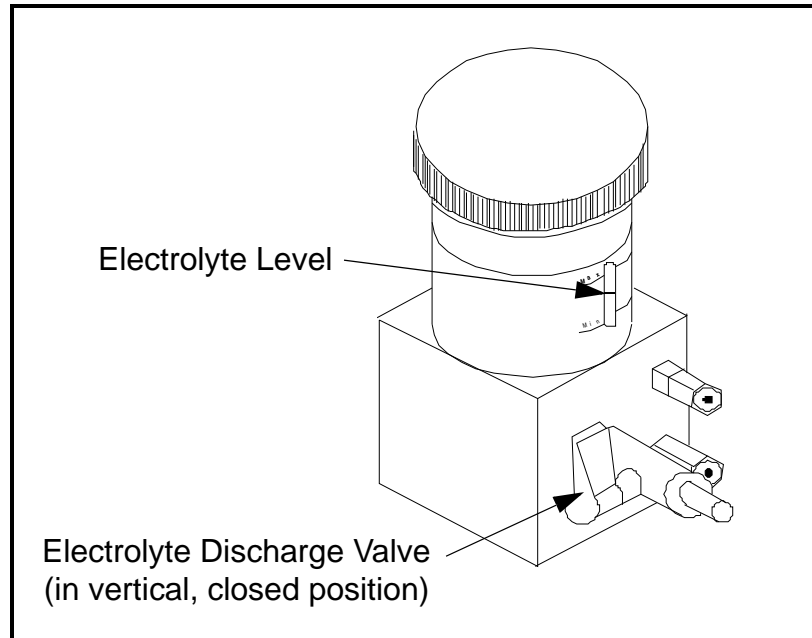

Figure 7: Delta F Oxygen Cell Electrolyte
1. Unscrew the top on the oxygen cell's reservoir. If you are using an explosion-proof cell, make sure its electrolyte discharge valve is in the vertical (closed) position (see Figure 7).
3. Using the min/max window on the oxygen cell, check the electrolyte level. The electrolyte should cover about 60% of the window (see Figure 7). The cell is now ready to be connected to the gas line.